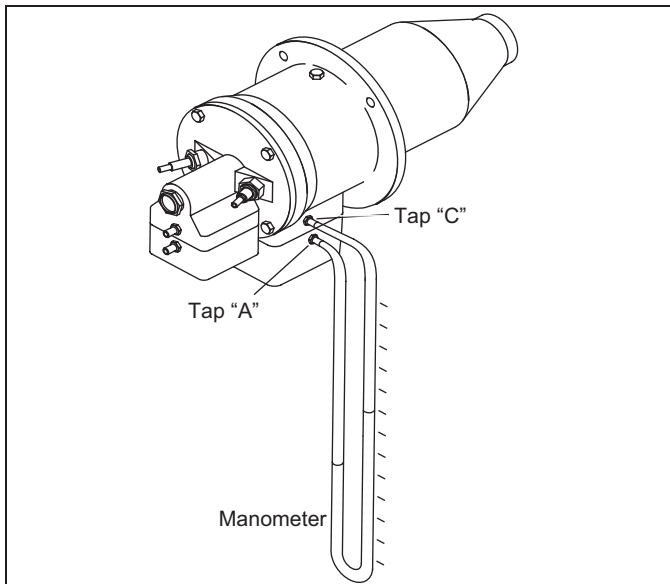

Figure 4.1. Set High Fire Air
3. Set high fire air using the instructions for either a single burner system or multiple burner system below. (See Figure 4.1)
Step 2: Set High Fire Air (Figure 4.1)
Step 4: Set High Fire Gas (Figure 4.1)